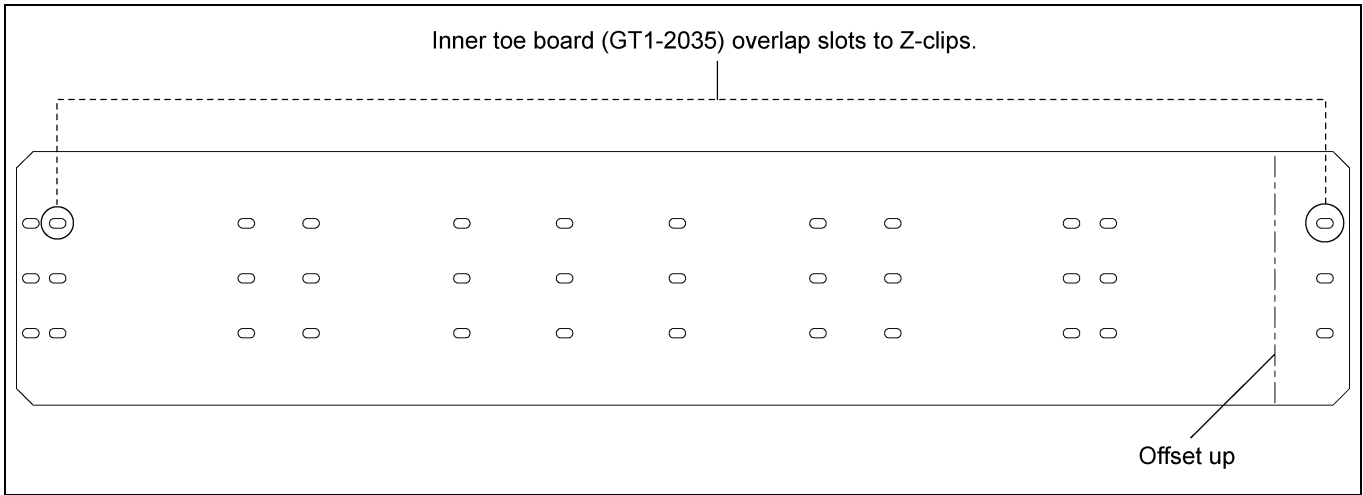

Figure 6L 30' Inner Toe Board (GT1-2035) for Offset and Roof Hatch Catwalks
3. Inner toe board is arranged with overlap slots on each side. Install 30' offset and roof hatch inner toe boards (GT1-2035) to corresponding slots as shown in Figure 6L.